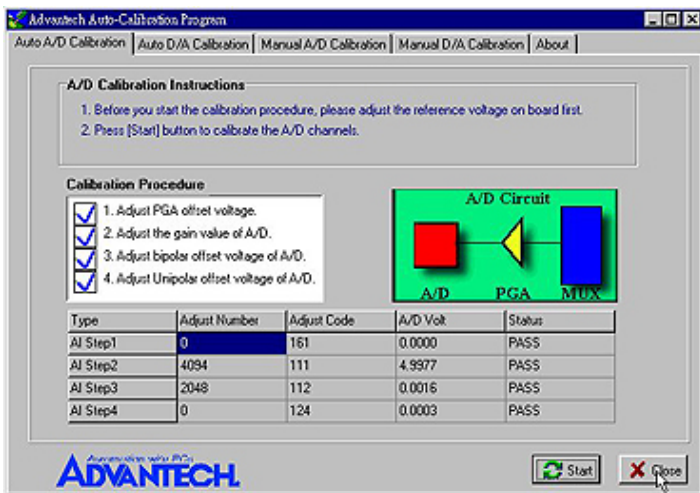

Figure 6-8: A/D Calibration is finished
Step 8: Auto-calibration is finished. (See fig. 6-8)